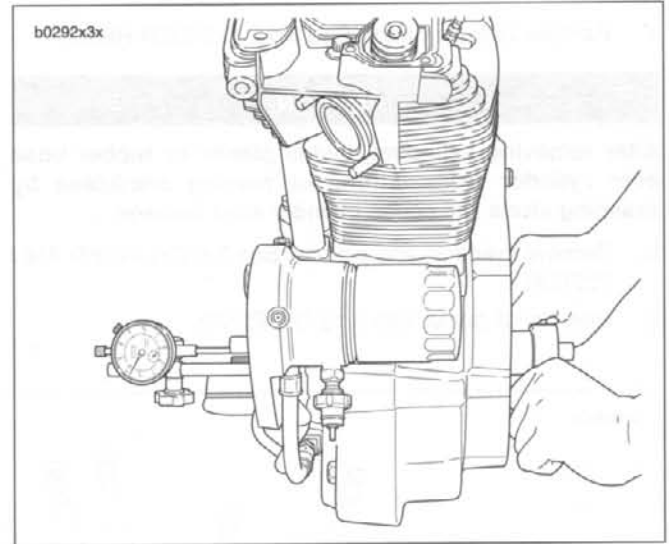

Figure 3-124. Checking Flywheel End Play
3. See Figure 3-124. Attach a dial indicator to gear side crankcase with indicator stem on end of gearshaft.